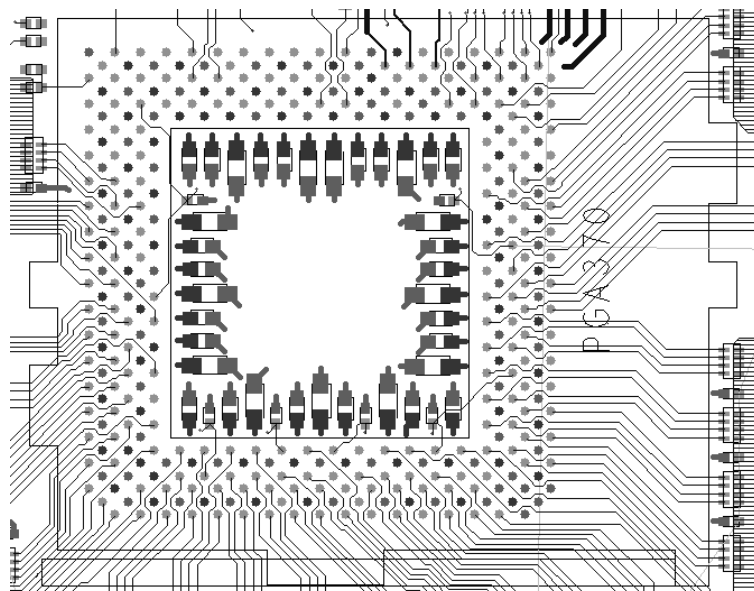

Figure 9: Capacitor Placement on the Motherboard
- Ten or more 4.7uF capacitors in 1206 packages. Ceramic X7R capacitors are recommended. All capacitors should be placed within the PGA370 socket cavity and mounted on the primary side of the motherboard. The capacitors are arranged to minimize the overall inductance between V_{CC}_CORE/V_{SS} power pins. Examples are as shown in Figure 9 below and Figure 2 on page 7.